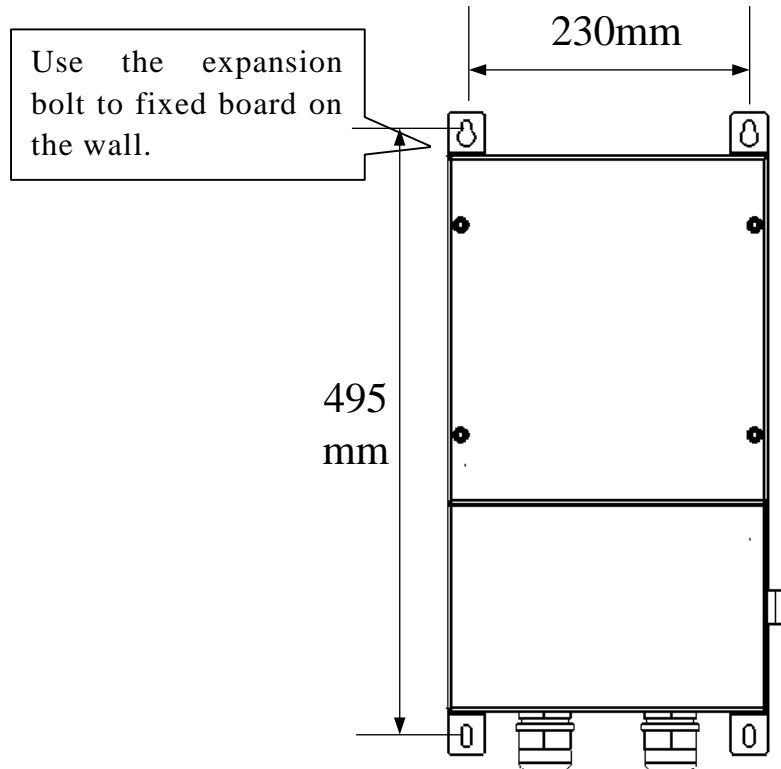

Fig. 2-4 JNPHxAF Mounting hole location
Step3: Let expansion bolt in hole, hange the lugs on expansion bolt as fig. 2-4 showing, and use the spanner to fasten expansion bolt.